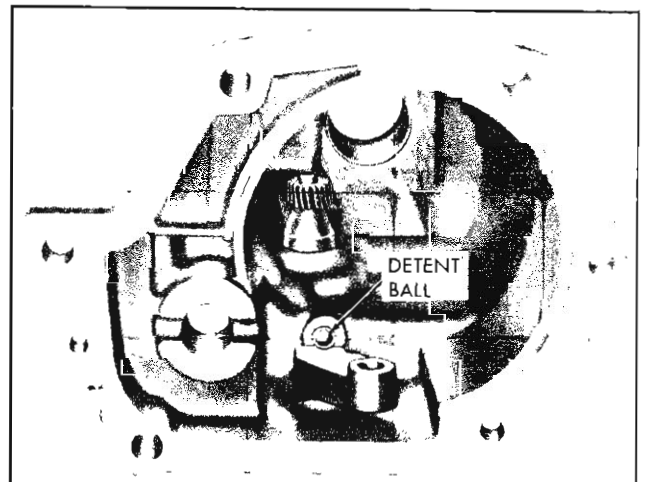

Fig. 16M—Installing Reverse Shifter Shaft and Detent Ball
5. Place detent ball on spring (fig. 16M) and, holding ball down with your thumb or a suitable tool push the shifter shaft back in away from case until it is directly over the ball and turn until the ball drops into detent on the shaft detent plate.